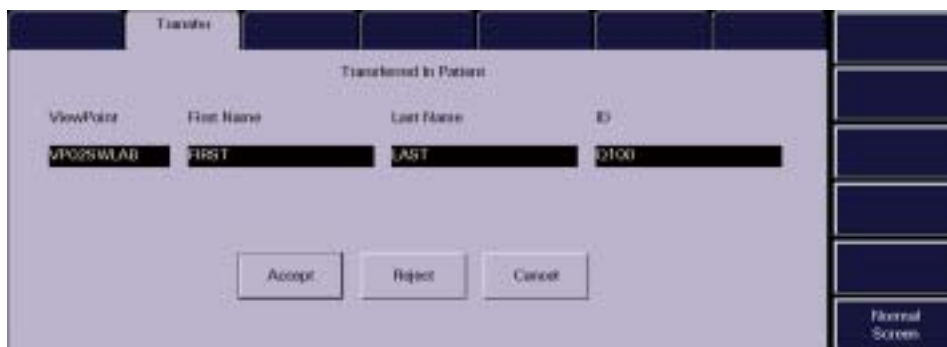

FIGURE 5-12 Transferred In Patient View
4. Select the **Accept/Reject** button on the **Transfer** tab. The **Transferred In Patient** view (FIGURE 5-12) displays.